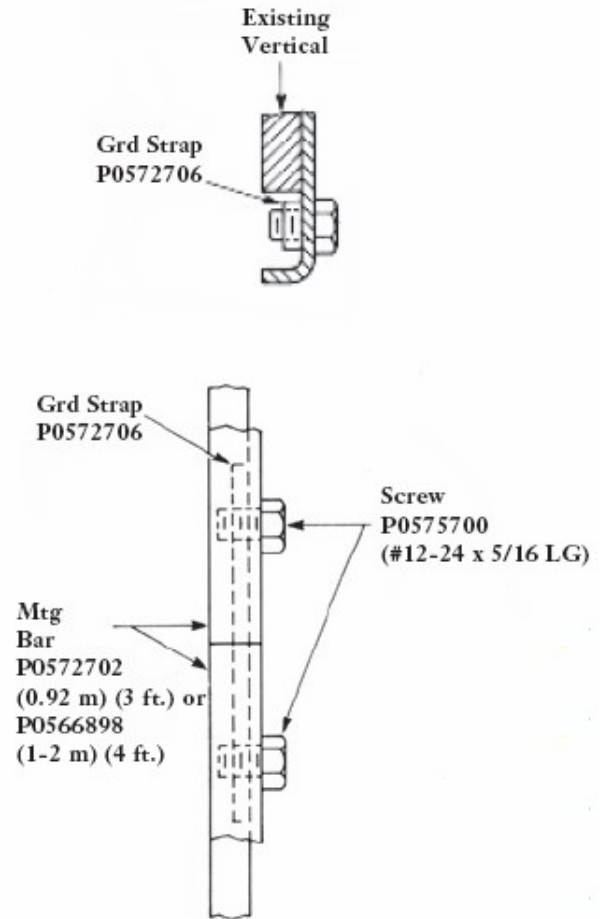

Figure 5 - Ground Strap
6.4 Place a 1.2 m (4 ft.) mounting bar against the right side of the vertical, with the short bend of the mounting bar located to the left (Figure 5).
6.8 Connect a ground strap between the top mounting slot of each mounting bar and the bottom mounting slot of the bar above (Figure 5).